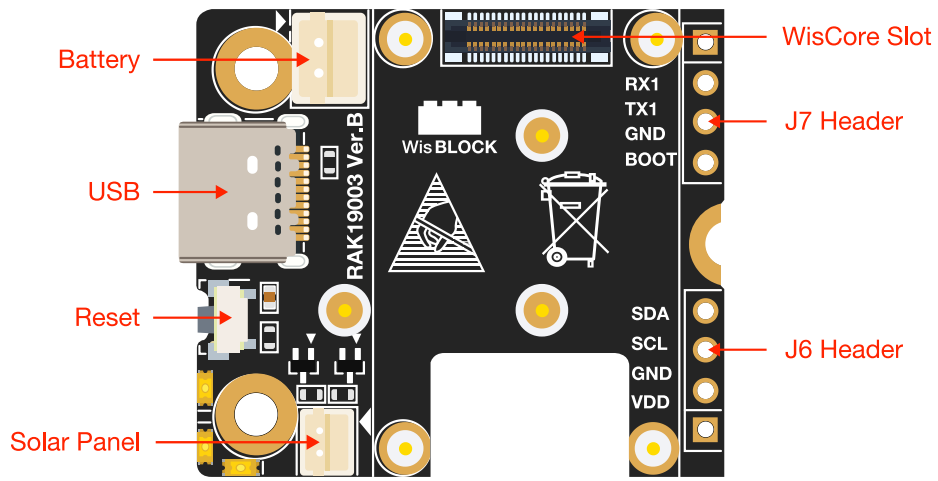
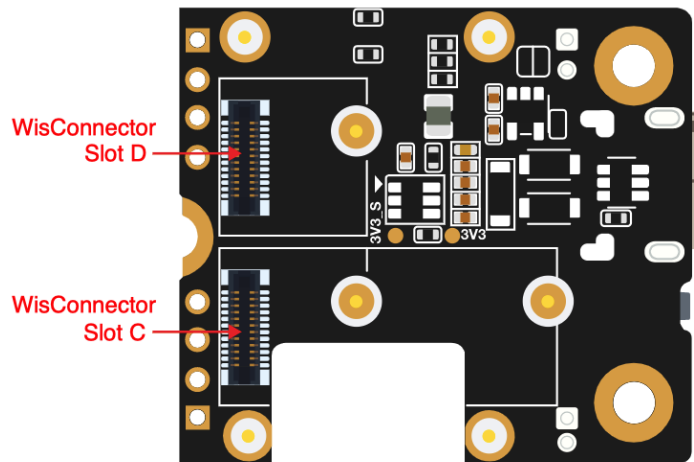

Figure 3: RAK19003 Top View Components
Figure 4: RAK19003 Bottom View Components
**Figure 3** and **Figure 4** show the location of RAK19003 main components.